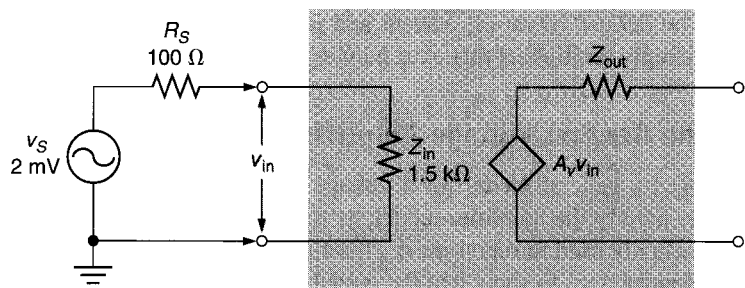

FIGURE 8.5 Amplifier input circuit.
When an amplifier is connected to a signal source, the source sees the amplifier as a load. The **input impedance** ( $Z_{in}$ ) of the amplifier is the value of this load. For example, the value of  $Z_{in}$  for the amplifier in Figure 8.5 is shown to be 1.5 k $\Omega$ . In this case, the amplifier acts as a 1.5 k $\Omega$  load that is in series with the source resistance ( $R_S$ ).
If we assume that the input impedance of the amplifier in Figure 8.5 is purely resistive, the signal voltage at the amplifier input is found as
Calculate the value of  $v_{in}$  for the circuit shown in Figure 8.5.
An amplifier like the one in Figure 8.5 has the following values:  $v_S = 800 \mu\text{V}$ ,  $R_S = 70 \Omega$ , and  $Z_{in} = 750 \Omega$ . Calculate the value of  $v_{in}$  for the circuit.
Here is what Example 8.4 has shown us: Had we ignored the effects of  $R_S$  and  $Z_{in}$  on the amplifier in Figure 8.5, we would have calculated an output voltage for the circuit of 1 V. However, because of the reduction in  $v_S$ , the actual value of  $v_{out}$  is 937.5 mV. Thus,  $R_S$  and  $Z_{in}$  cause the output of the circuit to be 62.5 mV lower than it first appears to be. As you will see, the combination of  $Z_{out}$  and  $R_L$  causes an even greater reduction in the ideal output from an amplifier.
10. Would the circuit shown in Figure 8.5 operate more effectively with a voltage source rated at  $R_S = 10 \Omega$ ? Explain your answer.